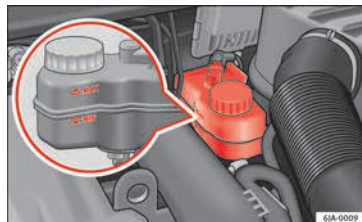

Fig. 209 Engine compartment: brake fluid reservoir.
- Check the brake fluid level in the reservoir » Fig. 209. It should be between the “MIN” and “MAX” marks.